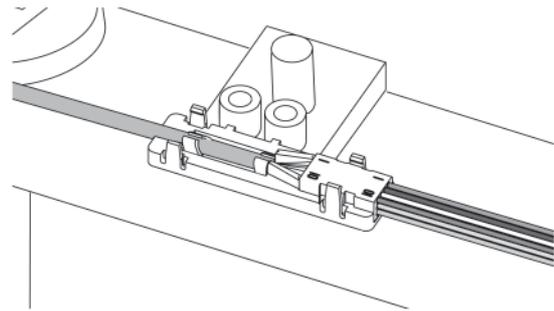

Figure 19
**7.8** Lower the insert section into the BTF body and press it into place (Figure 19).